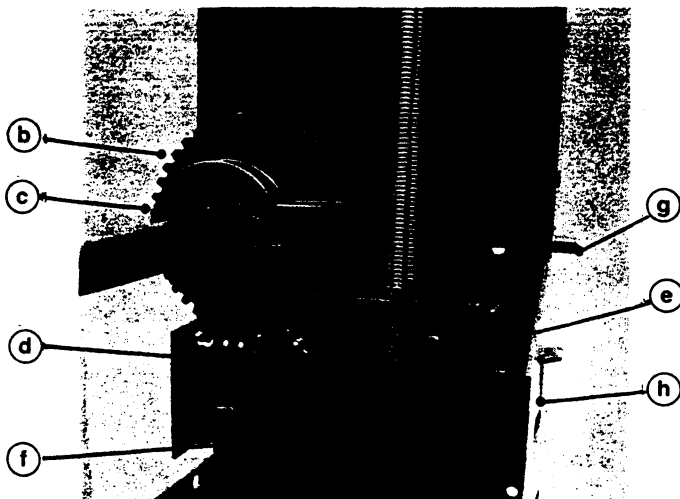

Figure 11. Levering-In Mechanism and Interlocks
The breaker is moved between the disconnected and connected positions by the levering in device. This consists of a shaft which is supported by the breaker frame side sheets, and which has a crank arm at each end (Figure 1, Page 2). Rollers attached to the crank arms engage vertical slots in plates attached to the cell and rotation of the shaft causes the breaker to move in and out of the breaker housing. The levering in shaft supports a worm wheel at its right end just inside the right breaker side sheet (Figure 11). The worm wheel is rotated by a
Access to the hexagon drive nut on the levering-in device is restricted by a shutter on the front panel of the breaker (Figure 11). This shutter is pivoted on the breaker frame and has a projecting pin which engages a slot on a cam on the levering in shaft. This particular cam has two (2) slots arranged so that the shutter can only be in its upwards position when the levering in cranks are in the connected, test or disconnected position. The shutter cannot be moved downwards until the trip plate is pushed inwards and the secondary disconnect plug is inserted. Pushing the trip plate inwards moves one prop out of the way of the shutter. Insertion of the secondary plug pushes the blocking plate backwards and rotates a second prop out of the way of the shutter. Then, downwards movement of the shutter causes a lever operating in parallel with the shutter to move downwards, and a projecting pin on this lever disengages a second cam located next to the shutter cam. Downward movement of the lever moves a bolt which locks the secondary disconnect plug in its connected position. The second cam has only one slot and the lever can only move upwards when the levering-in shaft is in the disconnect position. To summarize the action of the levering-in interlocks; the worm gear shaft shutter